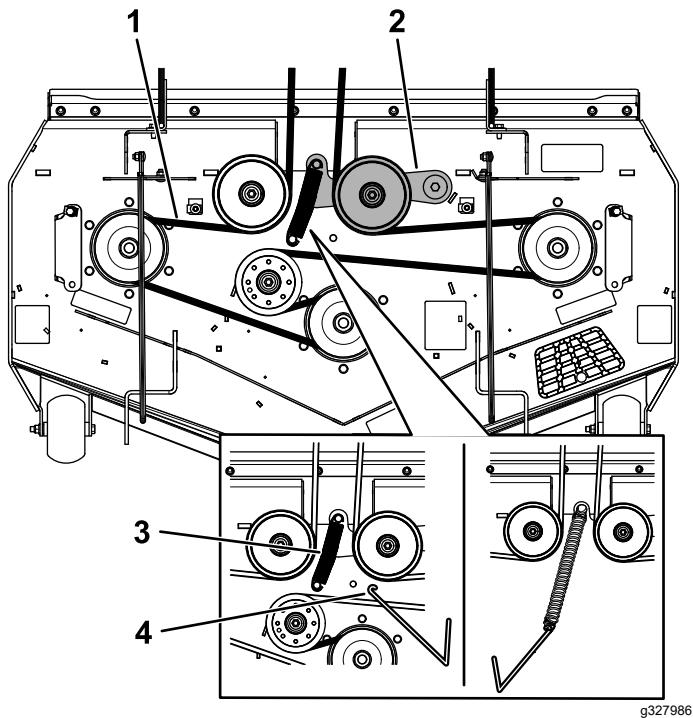

Figure 61
6. Using a spring-removal tool (Toro Part No. 92-5771), remove the idler spring from the deck hook to remove tension on the idler pulley (Figure 61).
- 8. Install the new belt around the mower pulleys (Figure 61).
- 9. Install the idler spring to the deck post (Figure 61).